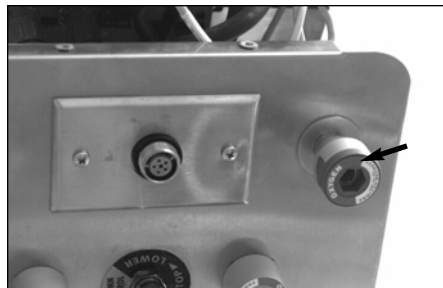

Figure 4
1. Remove the nut and spacer from the new valve, then insert the valve into the cover plate. The square feature on the washer shall fit into the cover plate square opening. Verify that the valve release push plate is oriented to match that of the other valves in the cover plate (Figure 4).